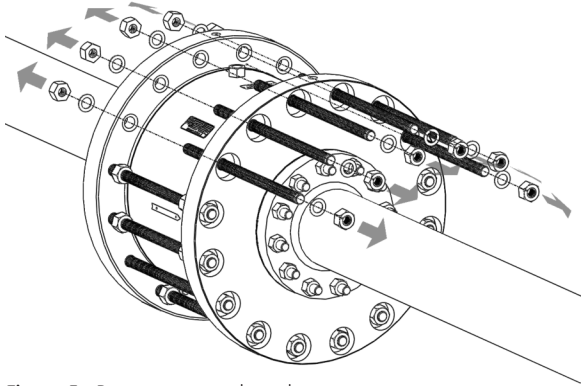

Figure 5 - Remove top studs and nuts.
1. Remove the top studs and nuts as shown in Figure 5.